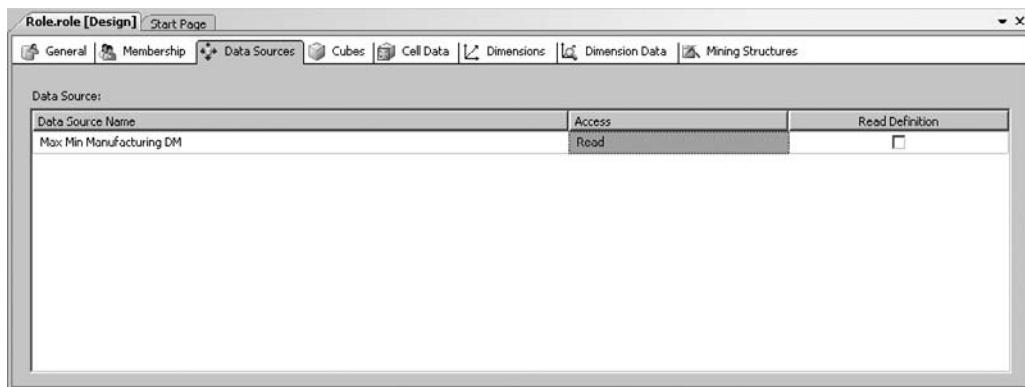

Figure 11-22 The Data Sources page of the Role Design tab
8. Select the Data Sources tab. Here, we control the access to each data source. Select Read from the Access drop-down list for the Max Min Manufacturing DM data source. We do not want this role to be able to read the definition of the data source, so leave Read Definition unchecked. The Data Sources page of the Role Design tab is shown in Figure 11-22.